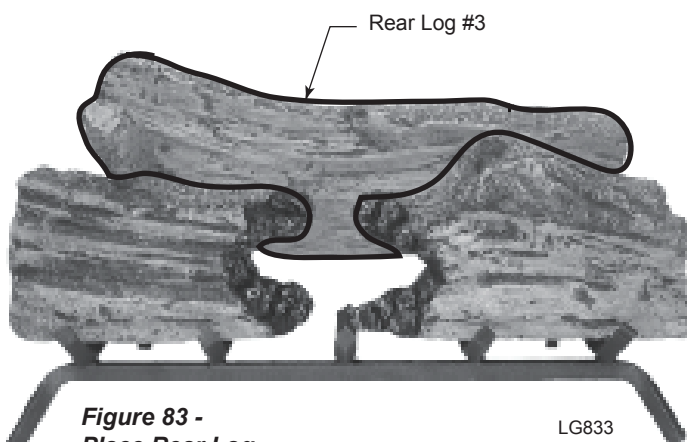

**Figure 83 -
5. Fit cutout in the bottom left of rear log #3 over the back end of log #2. Rest right end of log #3 on rear grate bar. *Figure 83*